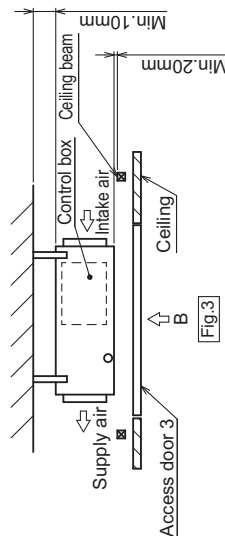

Fig.3
- (2) When a space of less than 300mm is available below the unit between the unit and the ceiling.
- (At least 120mm of space should be left below the unit as shown in Fig.3.)